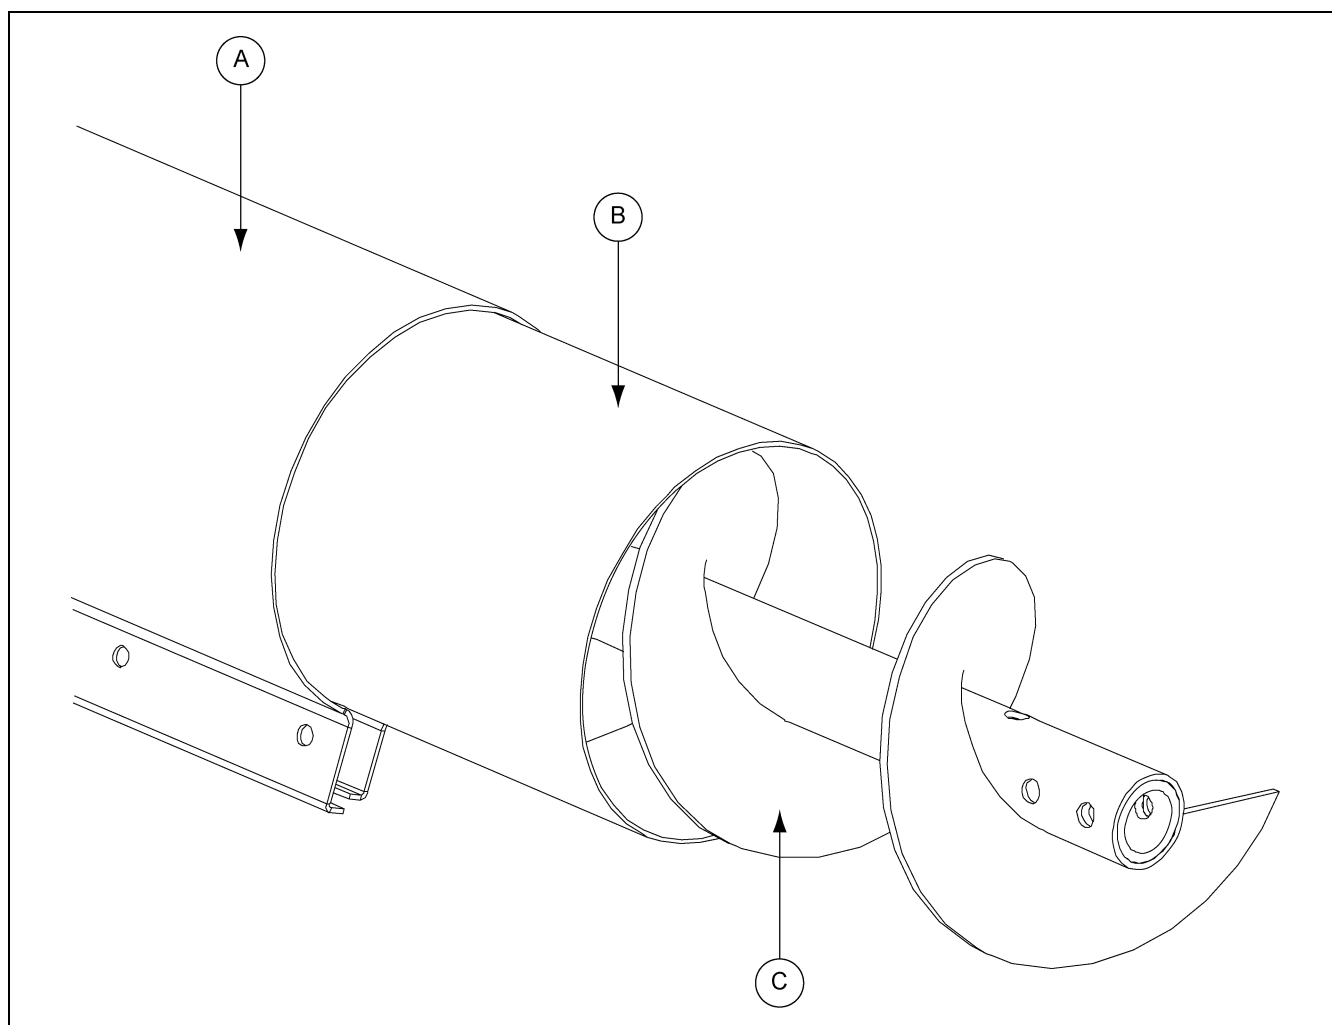

Figure 4L
1. Begin by sliding the extension connecting band (A) onto the main auger tube (B). (See Figure 4L.)